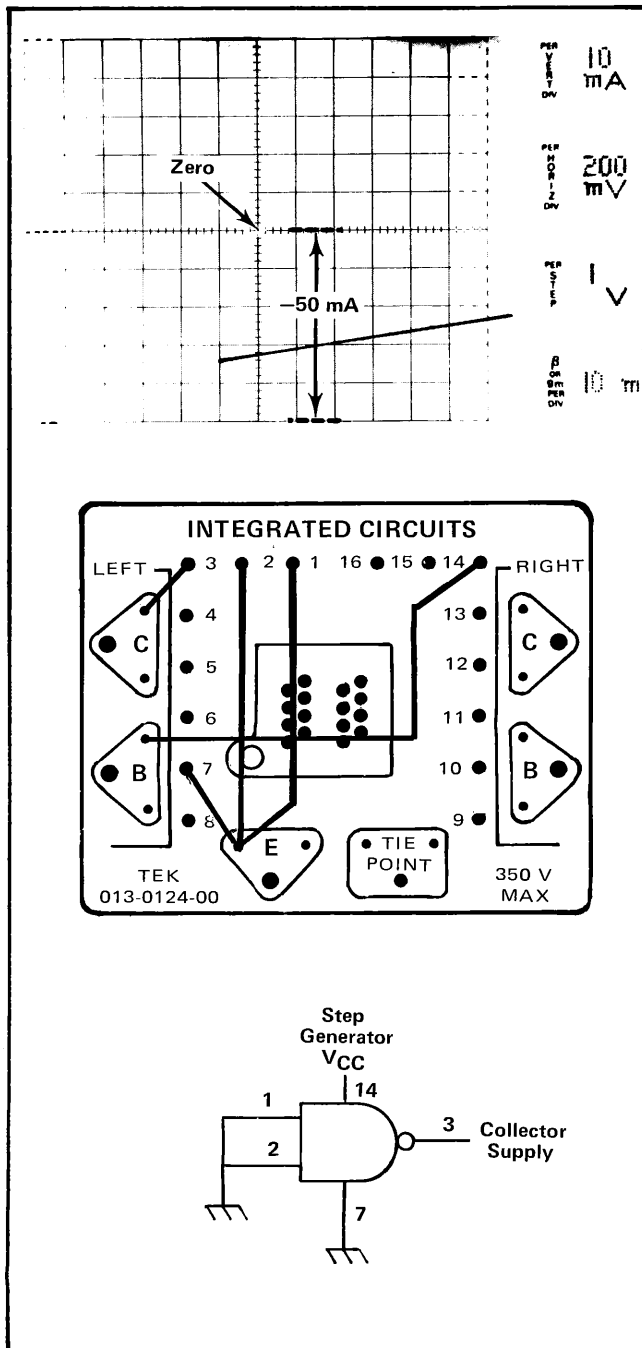

Fig. 9. Setup and Type 576 display for measuring I_{OS} .
b. Connect the patch wires to the IC adapter as shown in Fig. 9.²
c. Set the LEFT-OFF-RIGHT switch to LEFT and turn the VARIABLE COLLECTOR SUPPLY control clockwise until V_{out} is 0 volts (see the display in Fig. 9).